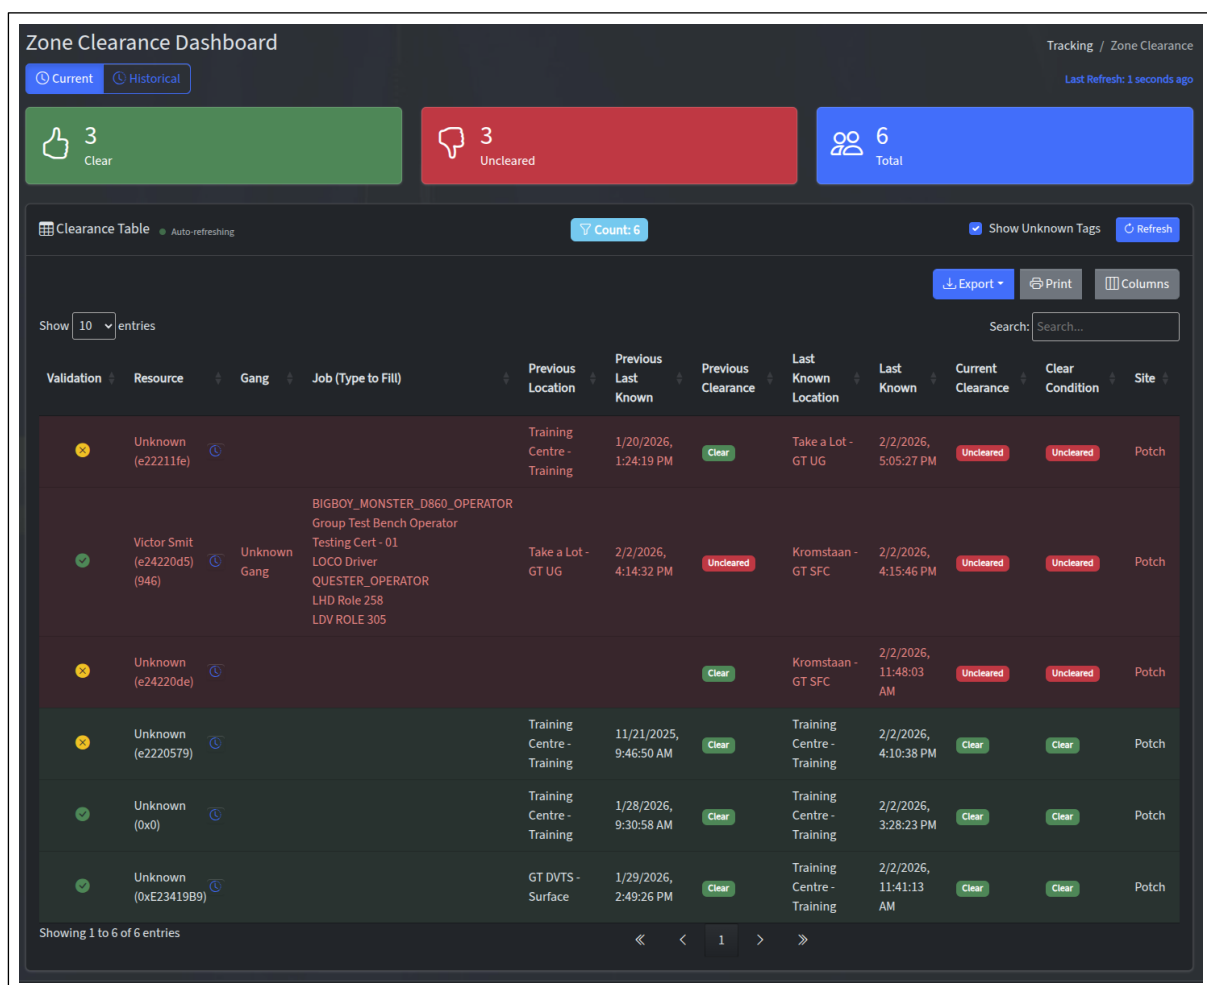

Figure 26: Zone Clearance Realtime Dashboard
- Real-time monitoring of personnel and vehicle movement in restricted zones (see Figure 26)